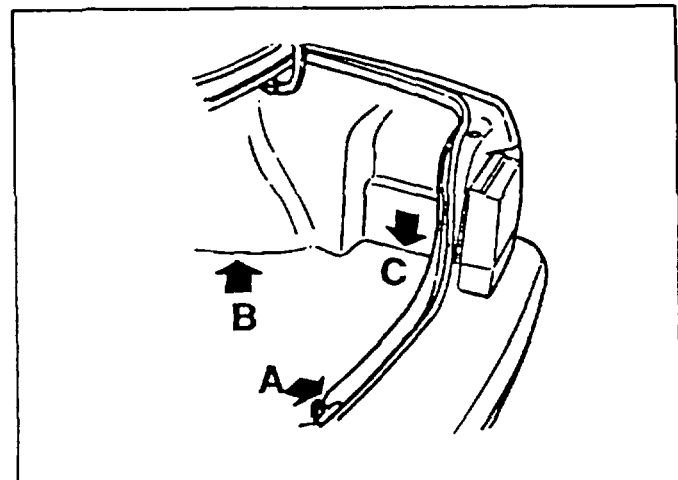

Figure 20: Locating Possible Water Leak Areas
7. Note which area the water enters the vehicle. Refer to the appropriate location's repair procedure. **Figure 20.**